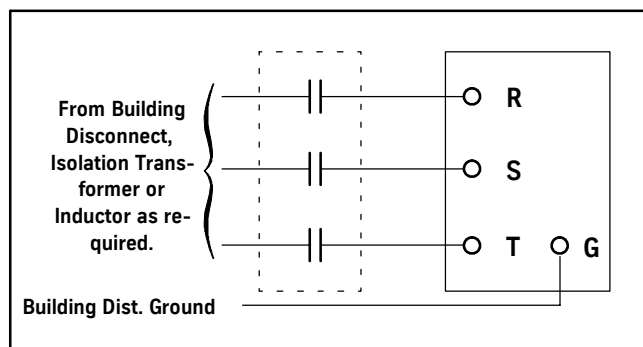

Figure 8
- **Installations WITH AC Line Contactor:** See Figure 8.